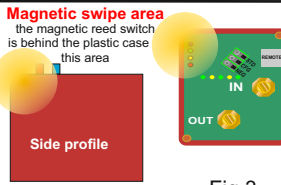

Fig 3
10. To change function you need to hold the lid (which contains the magnet) and place the 'magnetic swipe' area (highlighted on the lid) over the side of the unit beside the blue LED (refer to page 5, diagram fig.3 for magnetic area) until the blue light comes on. When the blue light comes on withdraw the lid- the blue light should go off (this indicates you have progressed 1 step in the program selection). You have now changed the mode to 'Uni Directional mode and you should see the green light flash 3 times ). If you do not want this mode then reposition the magnet again etc
7. To change the set 'ON' voltage, briefly place the magnet (integrated into the lid) above the BLUE LED on the unit as per page 5 fig 3 ( magnetic swipe area) at any time during the flashing sequence.